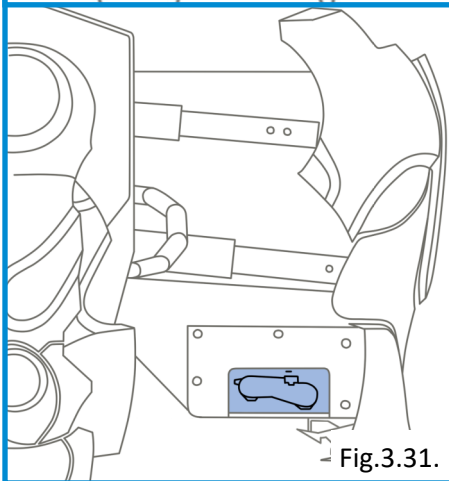

Fig.3.31.
- Raise the control flap and remove the pieces of paper (Fig.3.31).